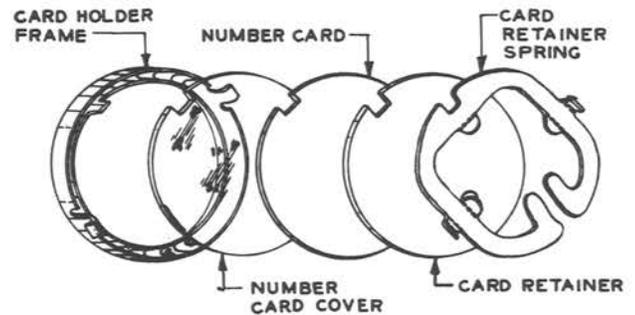

Fig. 22 — Card Holder Assembly (Earlier Type)
(2) If the tip of the upper spring lug on the card holder does not clear the number plate clamping ring, remove the card holder from the dial and adjust the lug with the No. 485A pliers. If the number plate clamping ring appears to be at fault, substitute a new one. Replace the card holder parts in the order shown in Fig. 22 and 23.